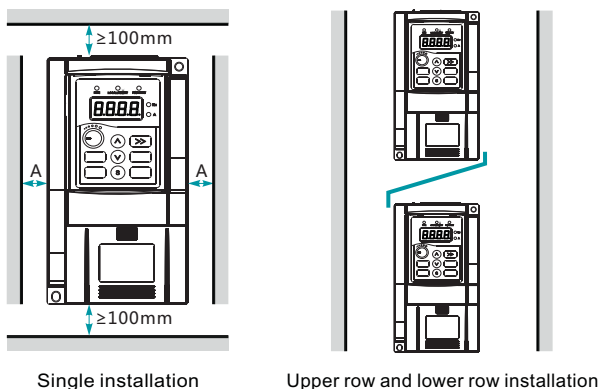

Fig. 3-1 Installation Diagram
- ① Reserve the installation clearances as specified in Figure 3-1 to ensure sufficient space for heat dissipation. Take heat dissipation of the other parts in the cabinet into consideration.
- ② Install the AC drives upright to facilitate heat dissipation. If multiple AC drive are installed in the cabinet, install them side by side. If one row of AC drives need to be installed above another row, install an insulation guide plate, as shown in Figure 3-1.
- ③ Use incombustible installation support.
- ④ In the applications where there are metal powder, install the heatsink outside the cabinet and ensure that the room inside the fully-sealed cabinet is as large as possible.